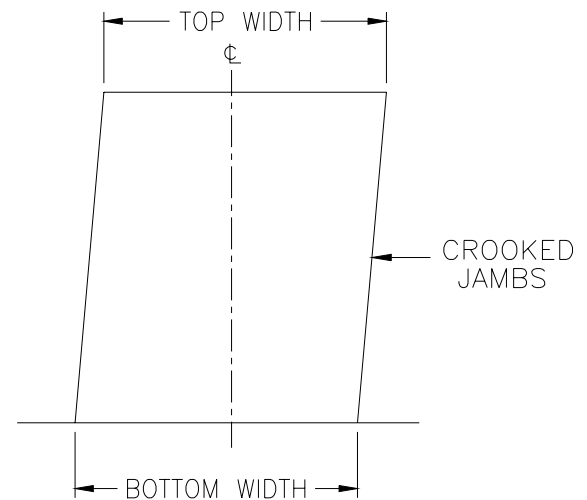

FIG. 3
- * **If the door jambs are crooked**, install door on the center line (Figure 3).